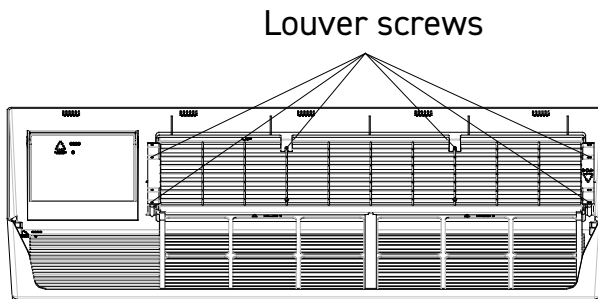

Figure 302 (Backside of Front Panel)
3. Turn louver insert and rotate 180 ° See Fig.302